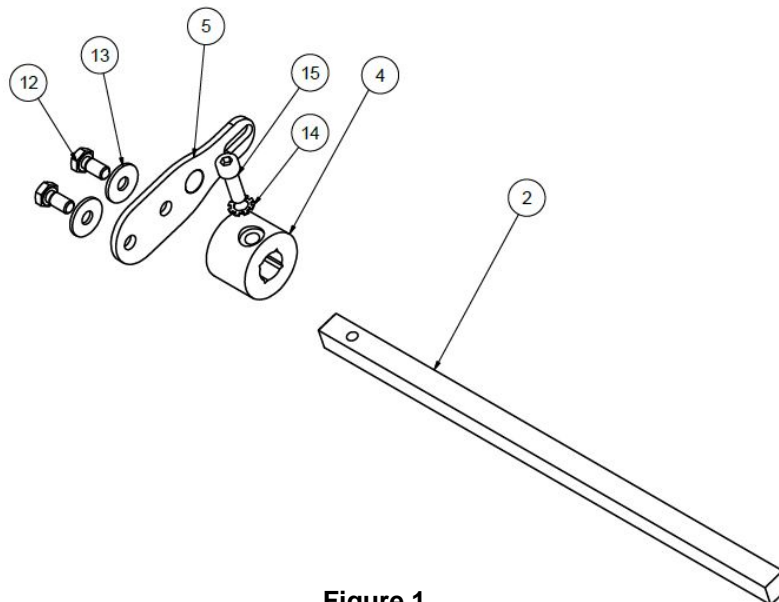

Figure 1
Attach each of the two arm shafts (2) to a support (4) using a DIN 912 M8 x 25 screw (15) and a DIN 6798 M8 toothed washer (14), and then attach these to a handle (5) using 2 x DIN 933 8.8 M8 x 16 screws (12) and 2 x DIN 9021 M8 washers (13). See Figure 1.